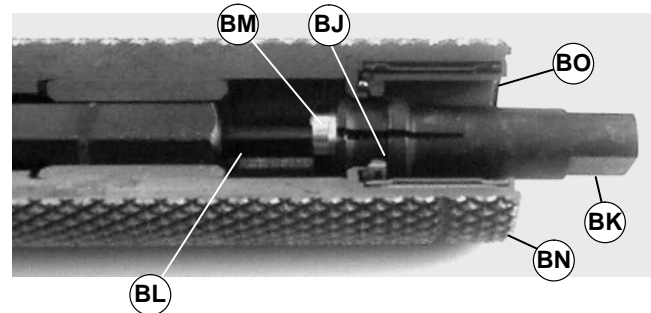

Figure 47
- Insert bearing removal tool (part # 25-05\*) (BK of Figure 47) into the pulley (BN) until shoulder (BJ) seats against bottom of bearing (BO).